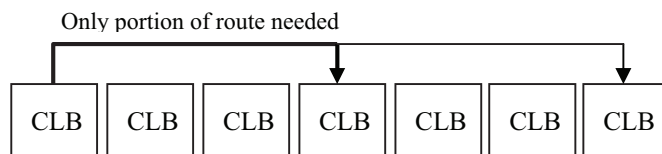

Figure 3. (U) PAR Tools understand that the entirety of a given route is used even when only a portion is needed.
(U) A new design constraint, called NOBOUNDARYCROSS, instructs the Place and Route (PAR) tools to keep the entirety of a route within a specified area. This is important as the tools now see the entire interconnect as a utilized route, whether it is or not. For example, a certain type of route in the FPGA, known as a HEX route shown in Figure 3, traverses from a single source to two destinations that are three and six CLBs away.